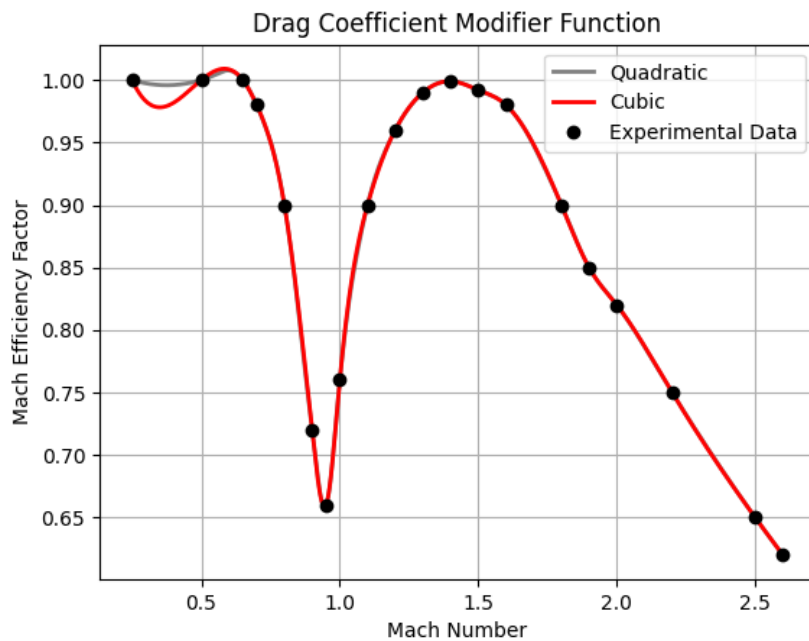
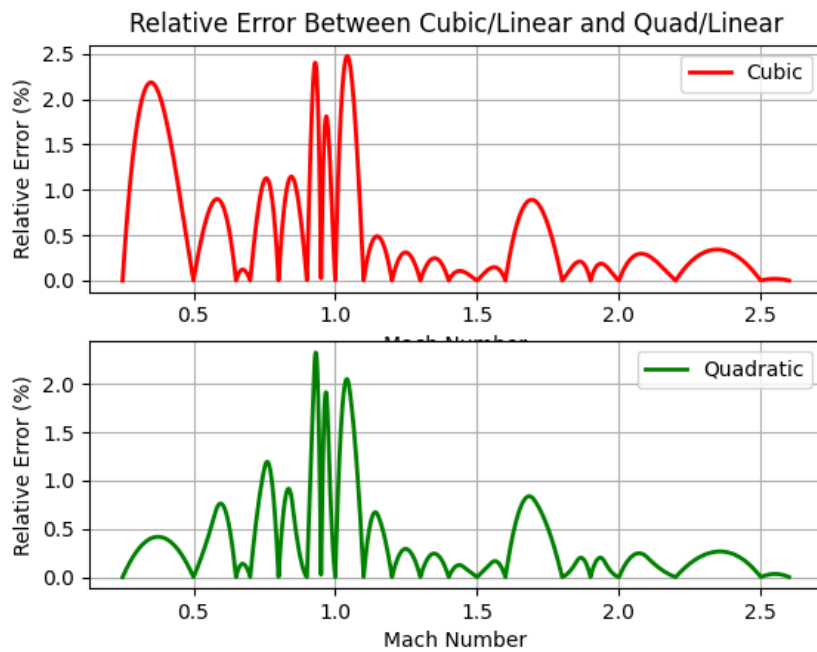

Figure 2: Mach efficiency factor plotted against Mach number using scipy.interpolation functions with cubic and quadratic splines
Figure 3: Relative error (%) between Cubic and Linear interpolation, as well as Quadratic and Linear interpolation against Mach number
1. The method in which we chose to model the experimental data continuously was through linear splines. This was done primarily because of its simplicity and speed, both in creating the code and in solving. Doing this with other interpolation methods would have resulted in much larger arrays to be solved, and would only marginally increase the accuracy. We can prove how much of an accuracy difference there would be using preexisting cubic and quadratic interpolation functions. Figure 2 shows what these interpolations would look like, and there are a few points of note. Firstly, there are oscillations between Mach 0.25 and 0.65. This should not be happening since we know drag is linear up until near Mach 1. Another point of note is beyond Mach 2, the Mach efficiency factor decreases linearly in all interpolations, so calculating cubic splines for these points is unnecessary. Both of these takeaways can be seen in Figure 3, which plots the relative error between cubic and quadratic against linear. While the relative error commonly increases in Mach 1, the error increases above Mach 2 and below Mach 0.5. All of this is to say that linear splines might seem like a non-ideal option, but it makes sense for some of the scenarios presented.